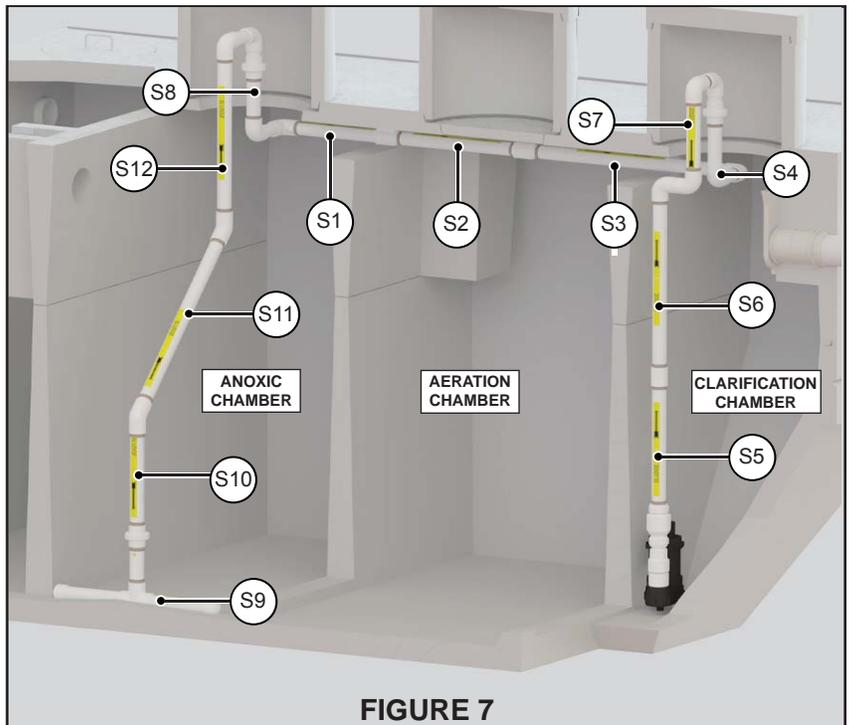

FIGURE 7
2. Thread subassembly S5 into the pump discharge as shown in Figure 7.
3. Solvent weld the coupling on subassembly S5 to subassembly S6. See Figure 7.
4. Solvent weld subassembly S6 to subassembly S7 as shown in Figure 7.
6. Use discharge assembly to lower pump into the clarification chamber until pump rests on the floor of the hopper as shown in Figure 7. Attach subassembly S4 to subassembly S7 at union. Securely tighten union by hand.
8. Attach subassembly S9 to subassembly S10 at union as shown in Figure 7. Securely tighten union by hand.
9. Solvent weld subassembly S10 to subassembly S11 as shown in Figure 7. Insure yellow arrows are aligned.
10. Solvent weld subassembly S11 to subassembly S12 as shown in Figure 7. Insure green arrows are aligned.
11. Bend mixing bar assembly at flexible tubing and lower into anoxic chamber until mixing bar is positioned as shown in Figure 7. Attach subassembly S12 to subassembly S8 at union. Securely tighten union by hand.